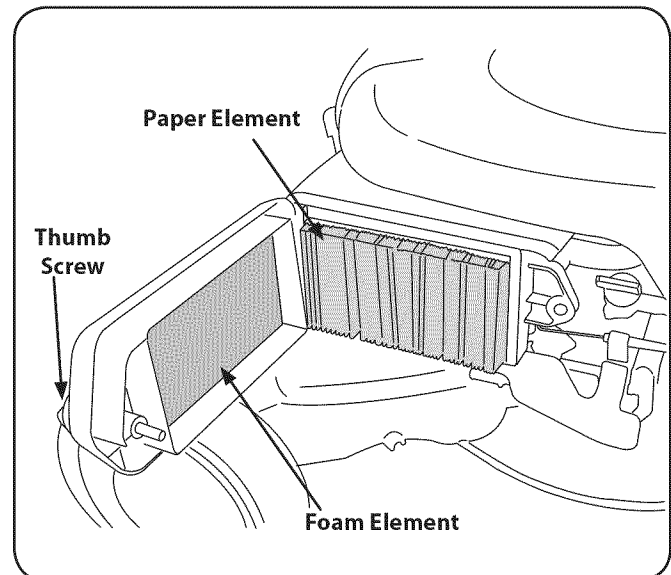

Figure 6-2
1. Remove the thumb screw and the air filter cover. Remove the foam and paper elements. See Fig. 6-2. Replace paper element when dirty or damaged. Clean foam element or replace when damaged.